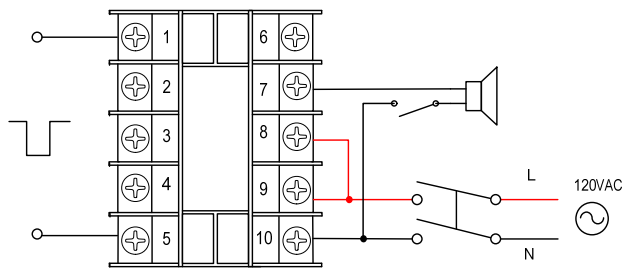

Figure 5. Rising-edge triggered signal.
- 6.a) Connecting a normally open (NO) momentary push button switch between the terminal (3, 4 or 5) to the COM (1 or 2). Please note, the function starts when you release (or open) the button of the switch, not when you press down the switch. See Figure 5.